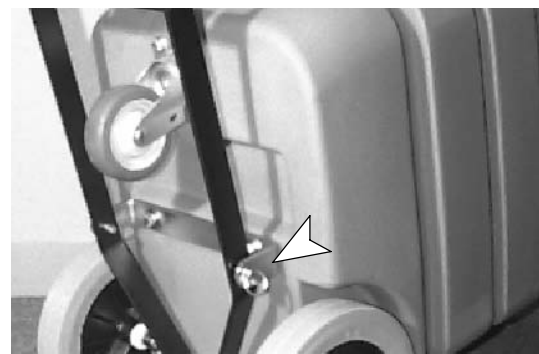

FIG. 3
6. Fasten squeegee to mounting bracket. Use (2) clevis and cotter pins provided (Figure 3).